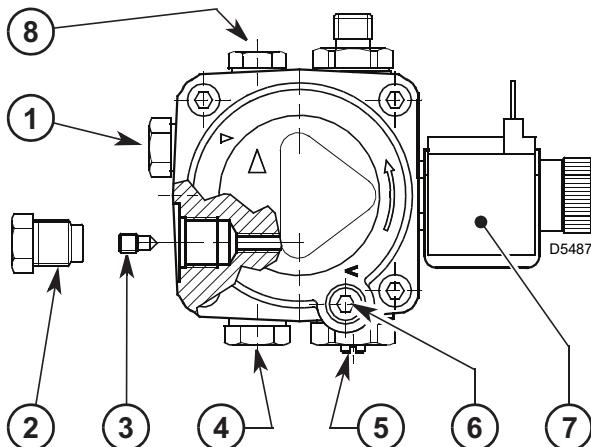
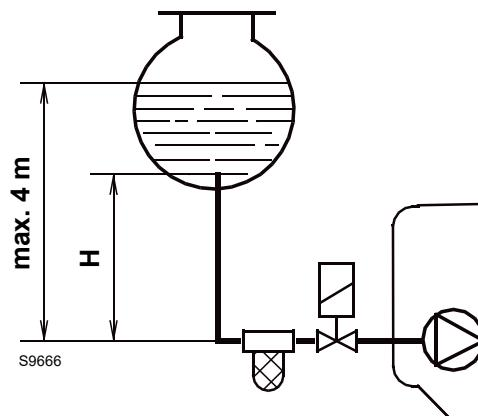

Fig. 16
Fig. 17
Depending on whether the pipe outlet is to the right or left of the burner, it will be necessary to invert both the fixing plate 1) and the closing bracket 2)(Fig. 17).
The suction line plug 1)(Fig. 16) is made of plastic. Once removed, it must not be used again.
The pump has a delivery pressure regulation device 4)(Fig. 16). Pressure increases if turned in a clockwise direction, and decreases if turned in the other direction. An indication of sensitivity is 1 bar per turn.
- If necessary, recalibrate the pressure using the screw 5)(Fig. 16).
Pressurised one-pipe systems (Fig. 17) have a positive fuel pressure on intake to the burner.
In order to obtain one pipe working it is necessary to unscrew the return line plug 2)(Fig. 16), remove the by-pass screw 3)(Fig. 16) and then screw the plug 2)(Fig. 16) in again with a tightening torque of 0.5 Nm.
In the system in Fig. 17, the table shows the maximum approximate lengths for the supply line, depending on the difference in level, the length and the diameter of the fuel conduit.
In the system of Fig. 17 just loosen the connection of the vacuumometer 6)(Fig. 16) and wait for the fuel to come out.